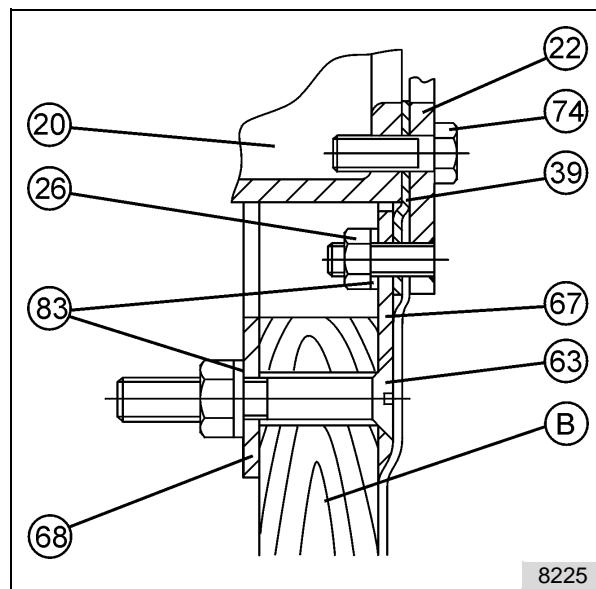

fig. 18: Detail from fig. 17
- N For details see fig. 18
Then mount the installation kit (92) on the clamp ring (22) with the screws (74). See also detail "N" in fig. 18.